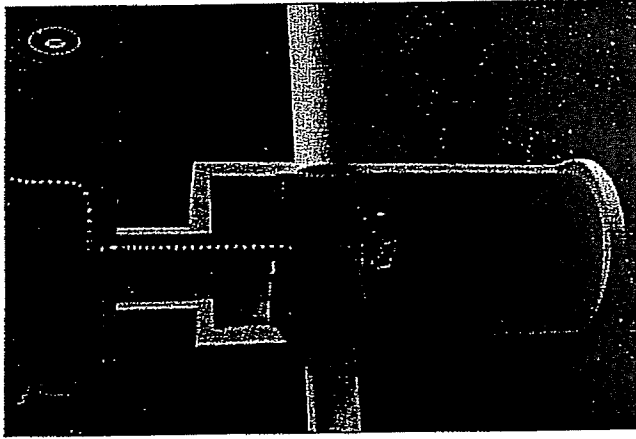

Fig.4 Floatables are removed with a vector hose (First Defense model FD-4, shown).
3. Without entering the vessel, look down into the chamber to inspect the inside. Make note of any irregularities. Fig.4 shows the standing water level that should be observed.